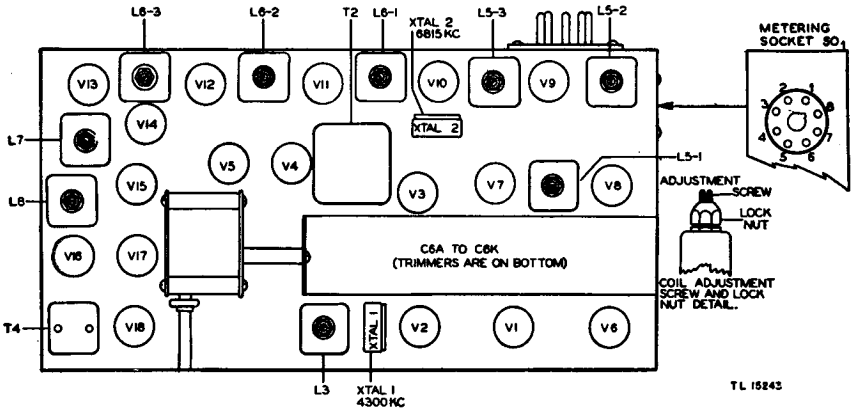

Figure 85. Radio Receiver and Transmitter BC-1000-A, alignment instruction detail—top view.
(4) Plug in Handset TS-15-( ).
(5) Set Alignment Indicator I-210-( ) VOLTAGE SELECTOR SWITCH in the 4.5-volt position, short the test probe to the alligator clip, and adjust the calibrate knob for a hairline shadow on the indicator eye.
(6) Loosen the locknuts on L3, L5-1, L5-2, L5-3, L6-1, L6-2, L6-3, L7, and L8, just enough to leave some tension on the screw adjustment. (See fig. 85.) Use the spintite wrench found in Maintenance Equipment ME-40-( ).
(7) Screw phantom Antenna A-28-( ) into the antenna terminal of Radio Receiver and Transmitter BC-1000-A, and attach the ground lead to the GROUND FOR SHORT ANT. post.
(8) Turn on the set.
(9) Plug Alignment Indicator I-210-( ) into Battery BA-39.
(10) Throw the VTVI VOLTAGE SELECTOR SWITCH SW1 to the 30-volt position and turn the CALIBRATE knob to open the shadow angle on the indicator eye to 90°.
*b. ALIGNING 4.3-MEGACYCLE OSCILLATOR.* (1) Insert the test probe in metering socket pin No. 4 of Radio Receiver and Transmitter BC-1000-A and fasten the alligator clip to the chassis.
a. PRELIMINARY PROCEDURE. (1) Remove the chassis of Radio Receiver and Transmitter DC-1000-A from the case,
(2) Before attempting to align the set, check all the tubes, using the method outlined in table XII.
(3) Connect Radio Receiver and Transmitter BC-1000-A to Battery BA-70 or BA-80 with the battery cord furnished with Maintenance Equipment ME-40-( ), or plug the set directly into the battery.
(5) Turn on the set.
(6) Check the discriminator, *b*(5), below.
(7) Loosen locknuts on L3, L5-1, L5-2, L5-3, L6-1, L6-2, L6-3, L7, and L8 just enough to allow adjustment of screws. (See fig. 85.)
(8) Turn on the 4.3-mc signal generator and allow it to warm up for at least 15 minutes.
(9) Use a suitable phantom antenna, such as phantom Antenna A-28-( ), if available. When employing this procedure in the field, do not press the PRESS FOR DIAL LIGHT & CALIB. button unless a phantom antenna is installed.
*b. ALIGNMENT. (1) 4.3-megacycle crystal oscillator. (a)* Insert the electronic voltmeter probe into pin No. 4 of the metering socket.